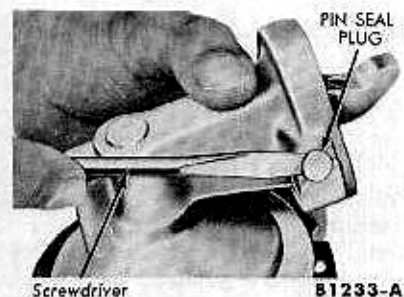

FIG. 7—Rocker Arm Pin Seal Plug Removal
5. Remove the rocker arm pin seal plug as shown in Fig. 7.